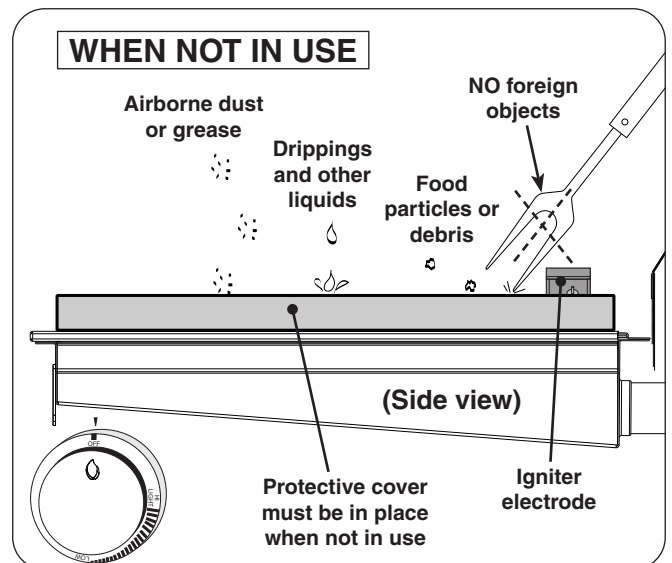

Fig. 31-2 Infrared burner - WHEN NOT IN USE
- When not in use, **always** cover the infrared burner with the stainless-steel cover. This protects the burner from drippings (from other cooking), water, airborne particles, and foreign objects (Fig. 31-2).
- Do not strike or scrape the ceramic portion of the burner as it may chip, crack, or break (Fig. 31-2).